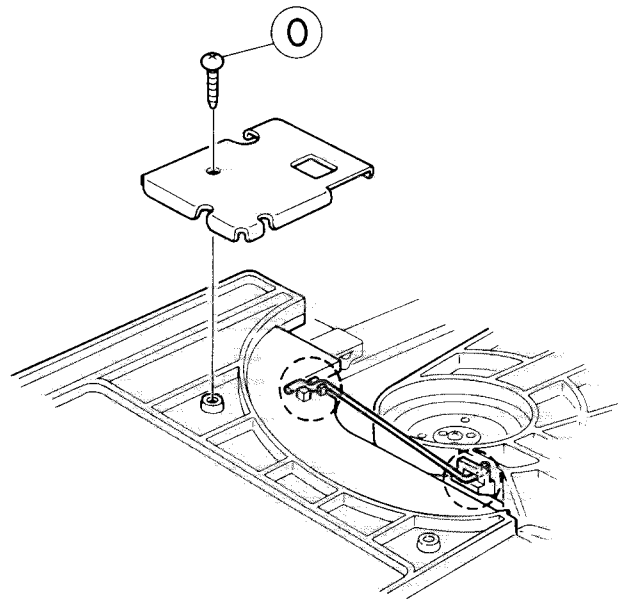
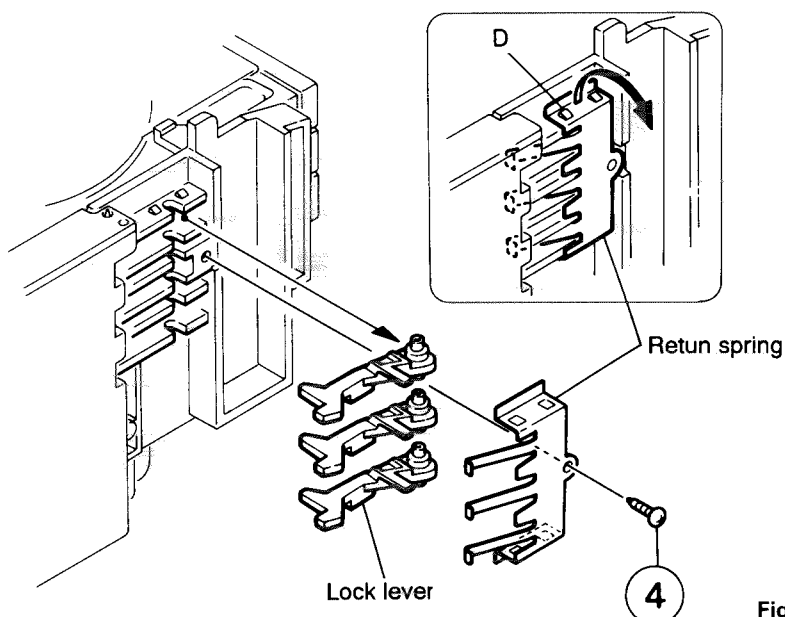

Fig. 2-12
Fig. 2-14
(See Figs. 2-12 to 2-18)
4. Remove one screw (O) retaining the plate.
5. From the T. bracket section (A) and clamper base section (B), remove both of the edges fixing the rod (See Figs. 2-12 and 2-13)
6. Remove the three screws ① retaining the T. bracket (See Fig. 2-12)
7. From the left side face of the chassis assembly, remove the one screw ④ retaining both of the return spring and lock lever.
8. By removing the pawl at the section (D) fixing the return spring, dismount the return spring (See Fig. 2-14).